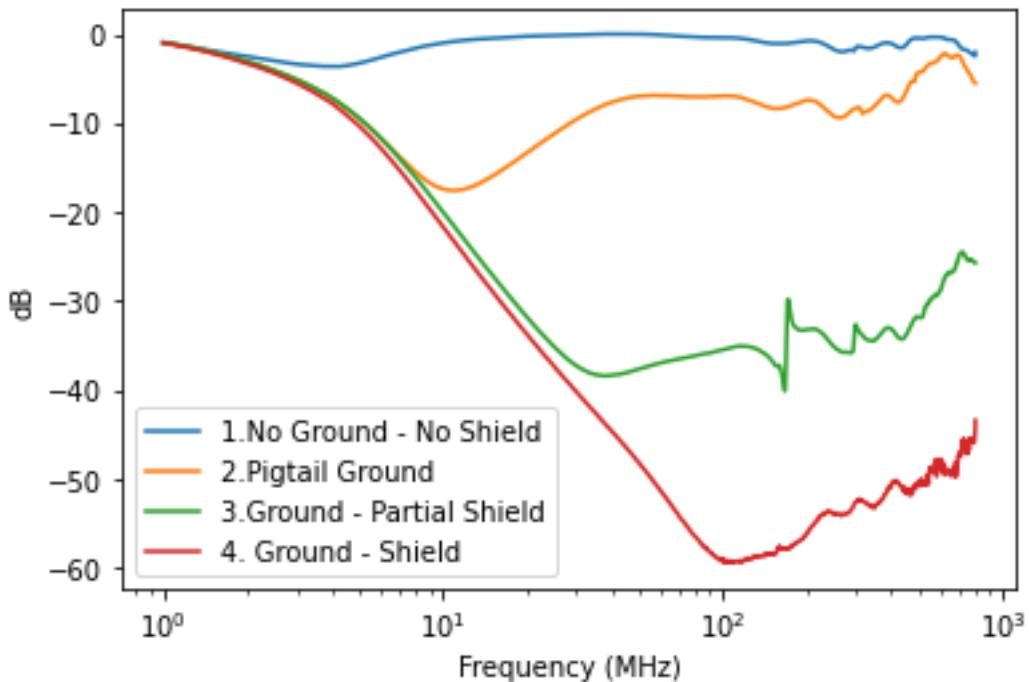

Figure 12: The  $|S_{21}|$  parameter measured in dB for the 4 separate filter implementations examined in Ex. 6.
The results are shown in Figure 12.
- **Inductance:** A pigtail ground connection has a higher inductance than a direct connection to ground. Inductance can cause impedance in the ground connection, which can affect the performance of the filter. Higher inductance can result in higher noise and interference in the circuit, which can reduce the attenuation achieved by the filter. The longer the pigtail wire, the higher the inductance will be, which can lead to more significant performance degradation. So the higher the frequency, the higher the impedance due to inductance and the more our pigtail connections starts becoming an equivalent to an open connection. That is why in higher frequencies, as seen in Figure 12, filter no.2 performance approaches the performance of filter no.1 which is floating.